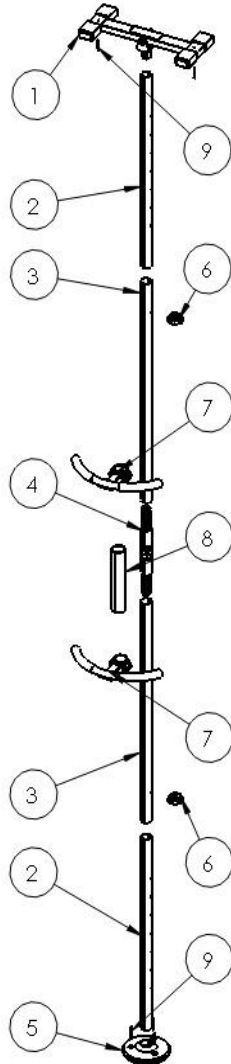

FIGURE 1
1. Take all parts out of the box and lay them on a flat surface near the place the product is to be installed as shown in Figure 1. Also included (not shown) are, a large adjustment wrench and Allen wrench.